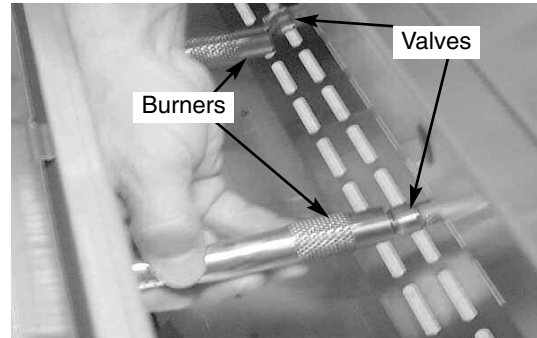

Fig 15
19. Reinstall burners into the grill body. Line up the burners with the valves on the manifold, making sure they are level. (See Fig. 15 & 16)